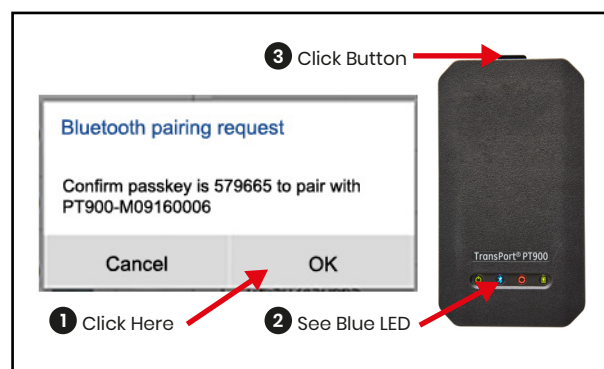

Figure 67: Confirm the Pairing
9. During the pairing process, PT900 security features require the user to confirm the pairing (see Figure 67 below). When the Bluetooth pairing request appears on the tablet (ignore the random passkey), click OK to continue. Then, confirm that the blue LED on the transmitter is flashing and click the transmitter power button.